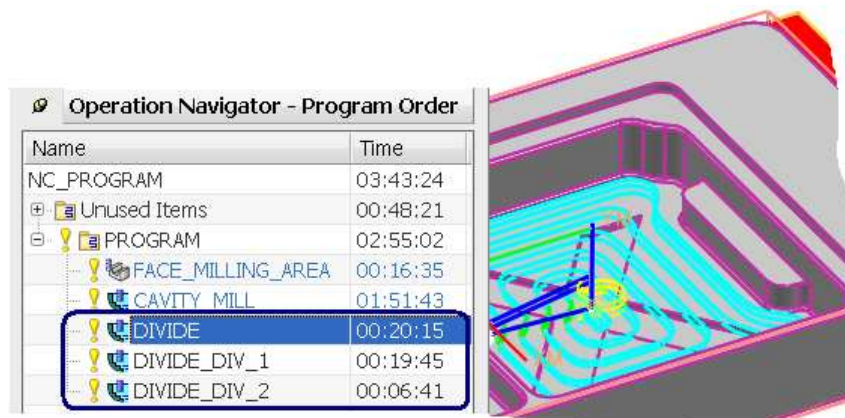

Figure 8.10. Tool path divided according to time
38. The tool path will be divided according to specified criteria, and the consecutive divided tool paths will be marked with `_DIV_` index and a consecutive number — figure 8.10.